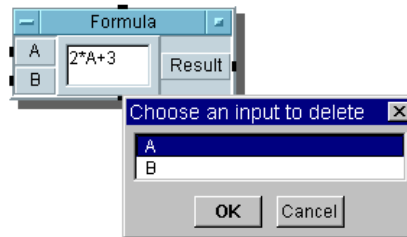

Figure 1-24. Delete Terminal Dialog Box
1. Open the object menu and select `Delete Terminal ⇒ Input...` or `Delete Terminal ⇒ Output`, choose the input or output to delete, and click OK. For example, Figure 1-24 shows the dialog box that appears when you choose `Delete Terminal ⇒ Input...`